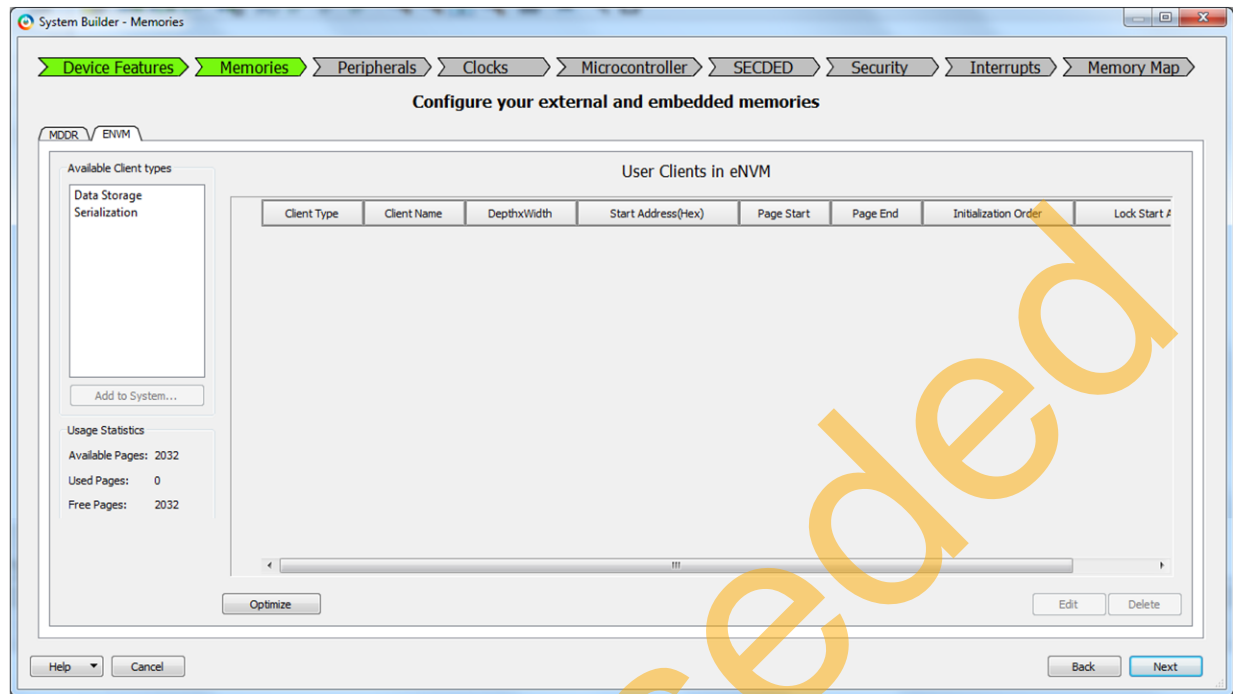
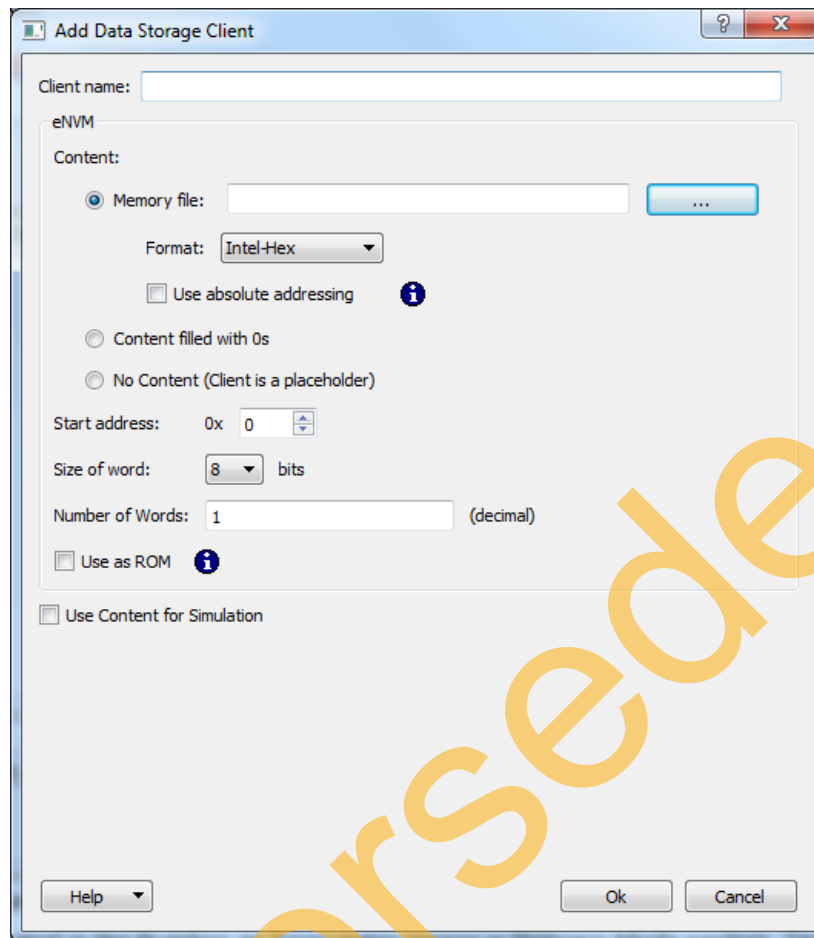

Figure 13 • System Builder - Memories Page
Figure 14 • Add Data Storage Client Window
3. Select **Data Storage** under **Available Client Types** tab (see Figure 13) and click **Add to System....** This opens **Add to Data Storage Client** window as shown in Figure 14.